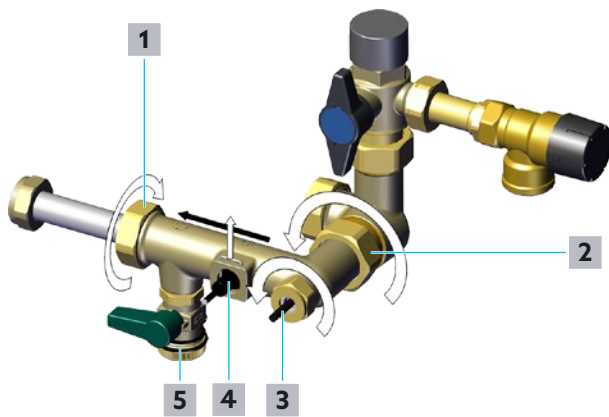

Fig. 32: Cleaning of the measuring turbine
- 7** Loosen the clamp of the volume flow sensor (position **4** in Fig. 32 on page 50) and put it aside.
- 8** Loosen the union nut of the temperature sensor for potable water (cold)/circulation S3 (position **3** in Fig. 32 on page 50).
- 9** Carefully pull the volume flow sensor for potable water circuit (position **4** in Fig. 32 on page 50) and the temperature sensor for potable water (cold)/circulation S3 (position **3** in Fig. 32 on page 50) out of the fitting.
- 11** Loosen the union nut potable water supply (position **2** in Fig. 32 on page 50) with a 38 mm spanner.
- 12** Loosen the union nut heat exchanger side (position **1** in Fig. 32 on page 50) with a 37 mm spanner.
- 14** Clean the sleeve with measuring turbine. Remove residues such as hemp residues with (running) water. Direct the flowing water through the fitting in the opposite direction to the direction of flow (from the direction of position **1** to the direction of position **2** in Fig. 32 on page 50). A water hose with an appropriate spray nozzle is particularly suitable for this purpose.
- 4 Install the volume flow sensor for potable water circuit (position 4 in Fig. 32 on page 50) and the temperature sensor for potable water (cold)/circulation S3 (position 3 in Fig. 32 on page 50).